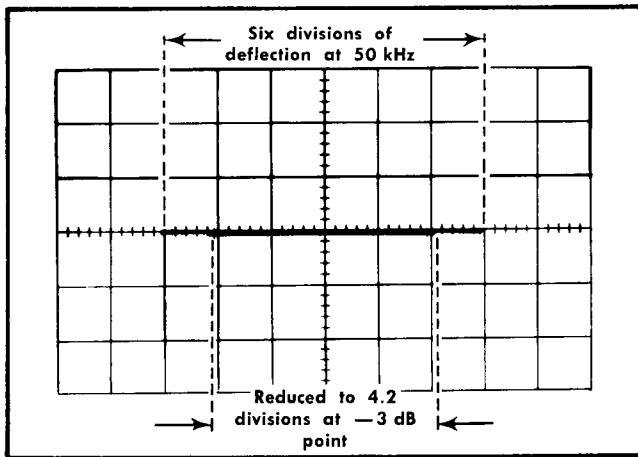

Fig. 6-60. Typical CRT display when checking X-Y bandwidth (double exposure).
d. Without changing the output amplitude, increase the output frequency of the generator until the horizontal deflection is reduced to 4.2 divisions (−3 dB point; see Fig. 6-60).